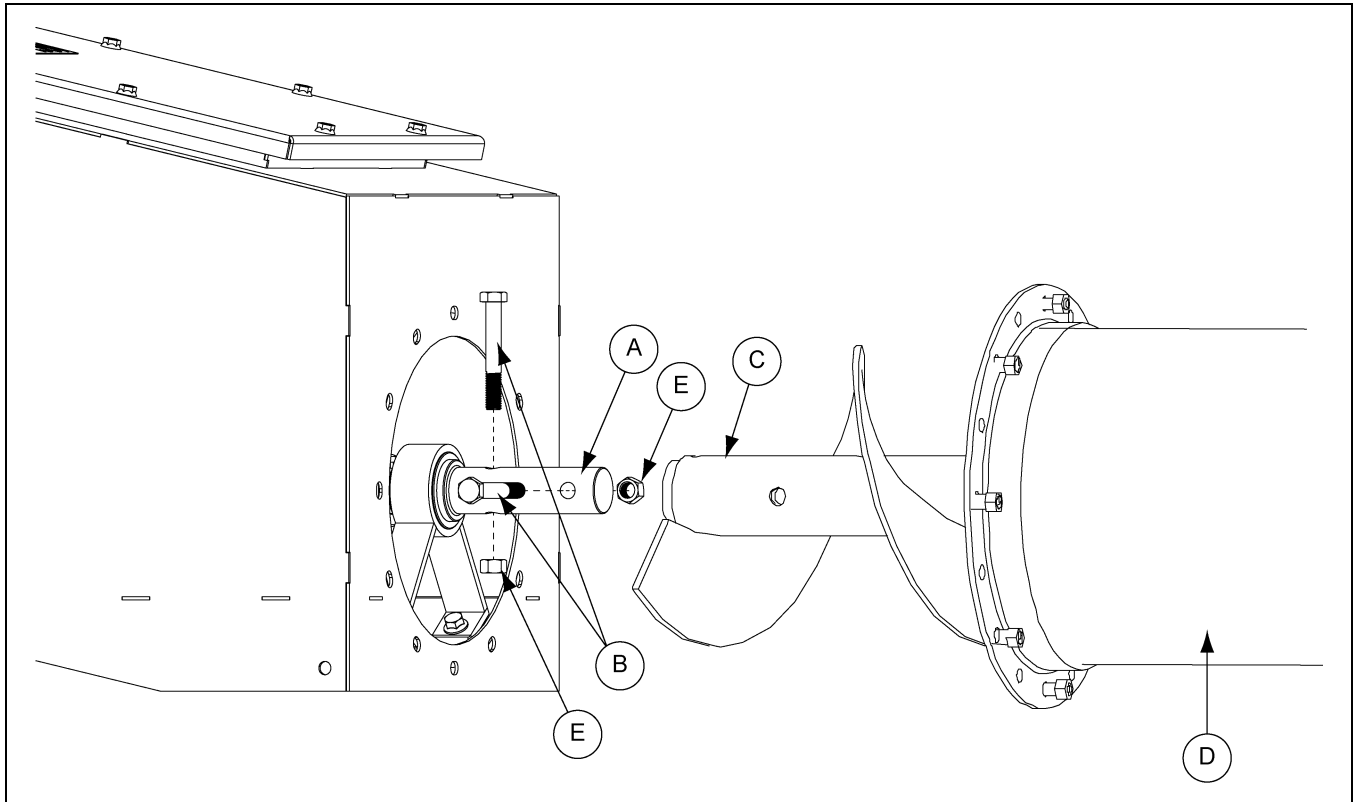

Figure 4C
1. Pull bin unload flight (C) out of unload tube (D) approximately one foot (1').
2. Remove bearing connecting stub bolts (B) and nuts (E) from connecting stub (A).
4. Align holes in unload flight with holes in bearing connecting stub (A) and slide flight onto stub.
5. With holes aligned, secure with bearing connecting stub bolts (B) and nuts (E) that were removed in Step 2. \(See Figure 4C.\)